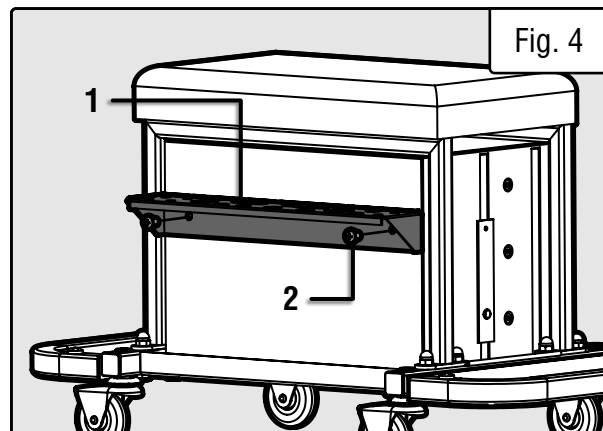

Fig. 4
2. Align the holes on the tool holder (Fig. 4 - 1) with the holes on the rear of the garage glider.
NOTE: The flat part of the tool holder should be on the top as shown in Fig. 4.
3. Fasten with two M6x10 screws (Fig. 4 - 2). Use a Phillips-head screwdriver (not included) to tighten.